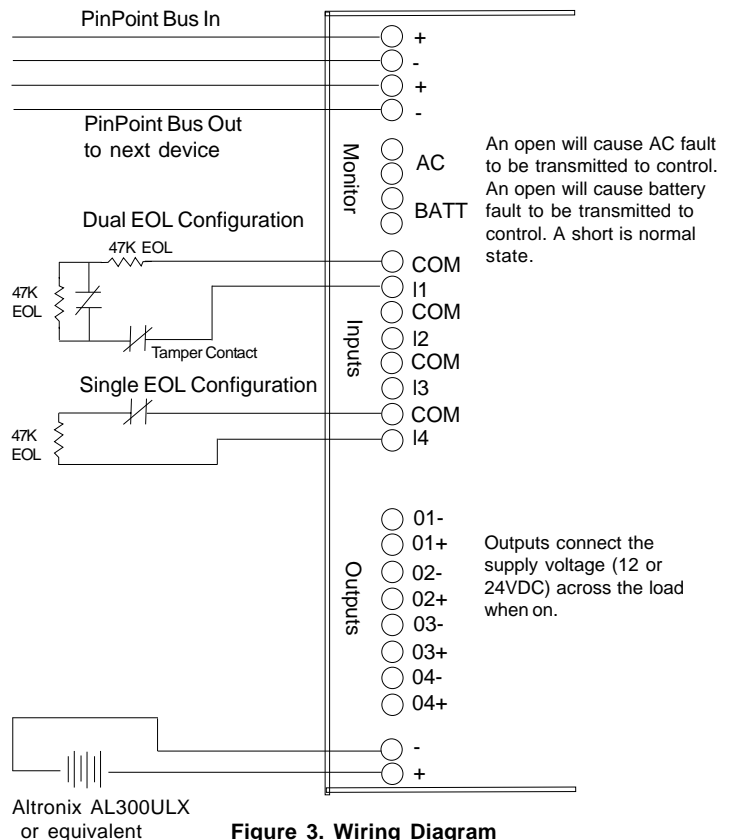

Figure 3. Wiring Diagram
5. Connect the wires to the appropriate screw terminals on the circuit board and tighten the screws. See Figure 3.